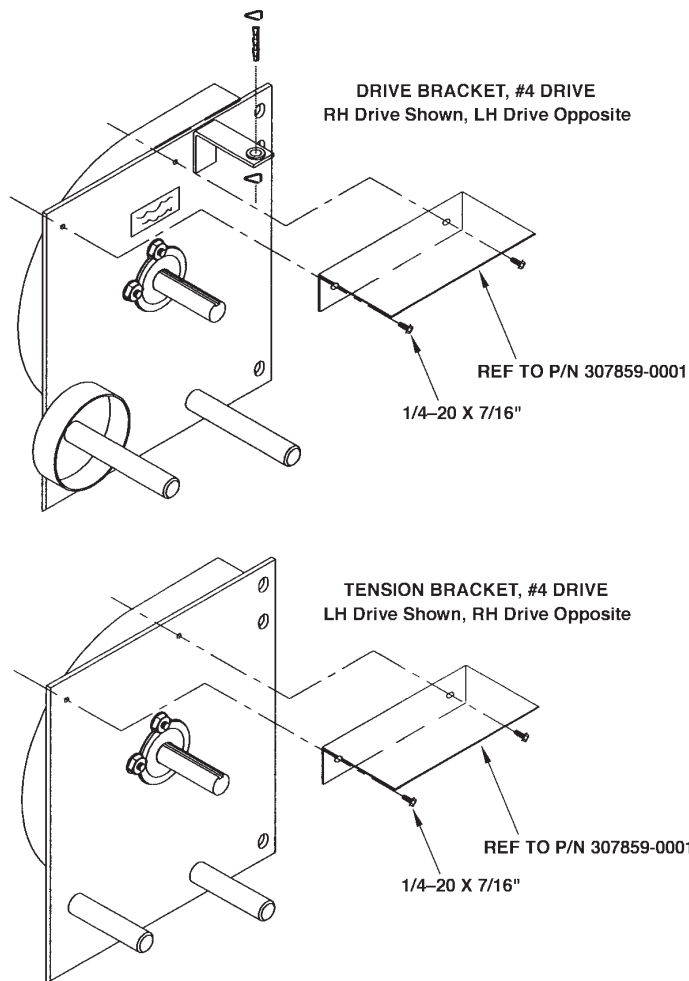
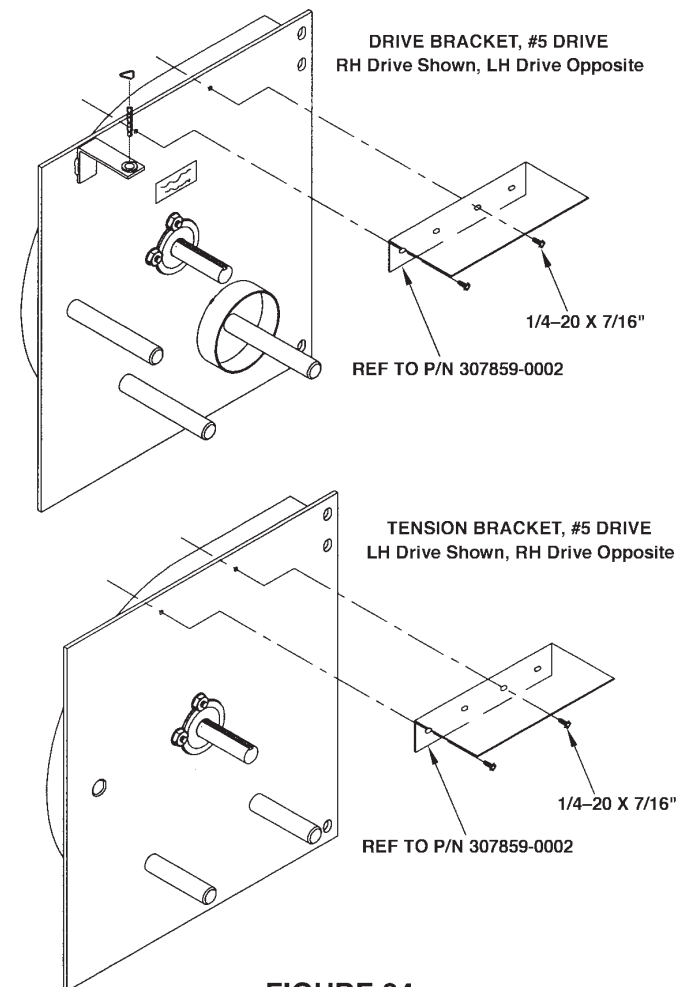

FIGURE 33
FIGURE 34
- Debris shields are standard items and should be installed as shown in Figure 33 and Figure 34.